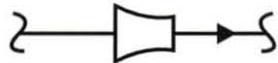

Figure 48. Flow Sensing Element Symbol
- ❑ 2. Determine which type of flow sensing element symbol is shown in figure 48.